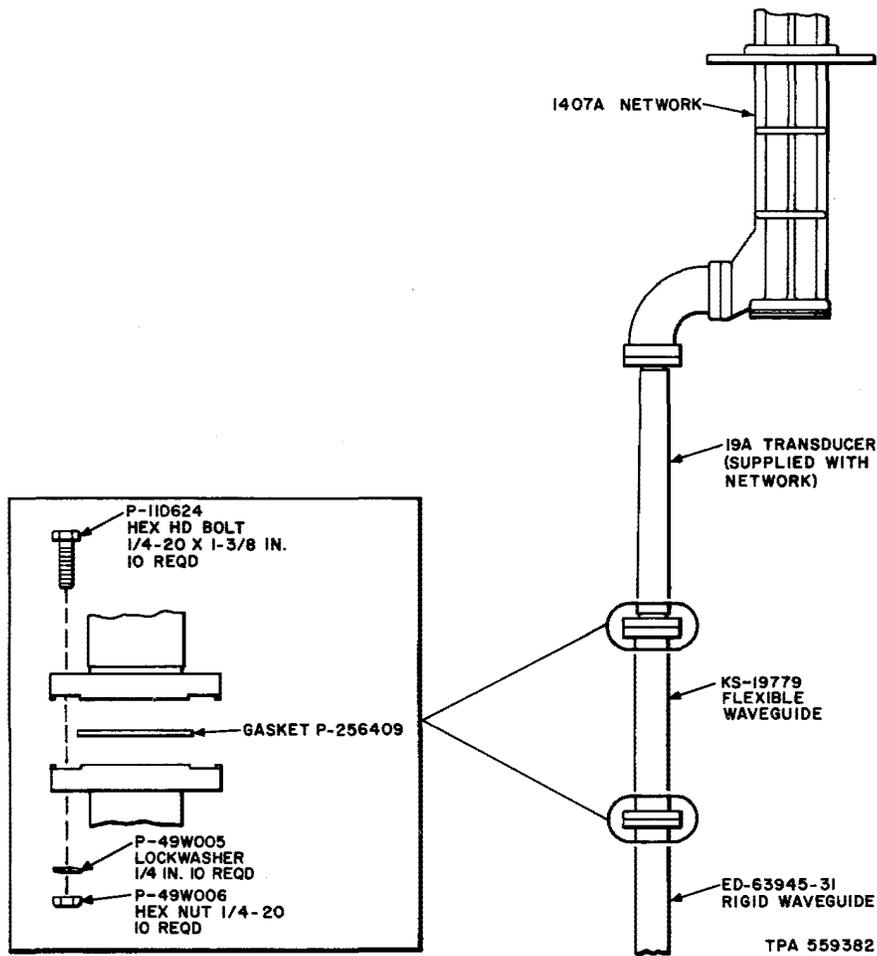

Fig. 3—Installation of WR-229 Flexible and ED-63945-31 Rigid Waveguide
2.08 Attach the WR229 flexible waveguide to the network tap, as shown in Fig. 3, using the bolts, lockwashers, gasket, and nuts supplied with the network and the waveguide.